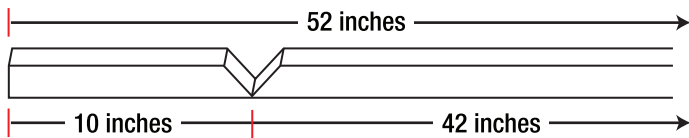

Figure 11-19. You need to cut a V shape out of the handlebar to bend it.
The upper frame is a 72-inch piece of 1-inch square steel tubing, cut into two pieces. The longer, 52-inch piece serves as the main handlebar riser assembly and must be semi-cut and bent into a slightly obtuse L shape (see Figure 11-19).
2. Cut a V notch into a 52-inch piece of tube, about 10 inches from the end (see Figure 11.19). Make a V cut into the top and sides of the square tube, but do not cut through the bottom of the piece.